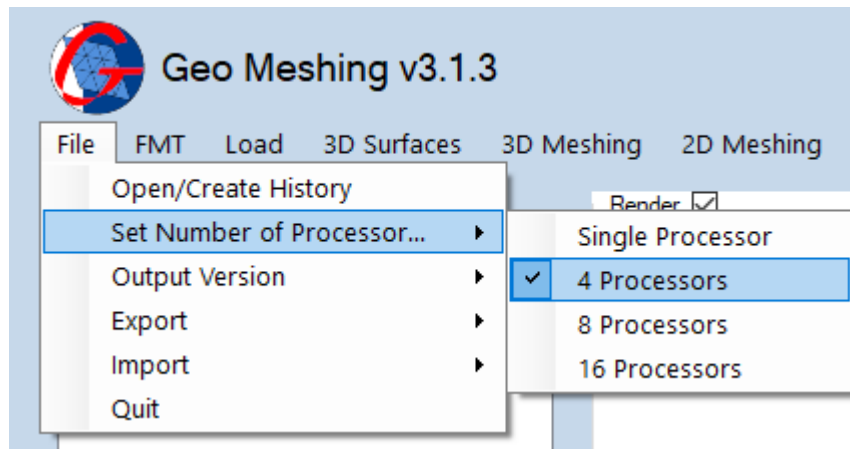

Figure 9: File Menu – Set Number of Processors.
- **File Menu, Set number of processors:** This option (shown in Figure 9) has a submenu with four options.